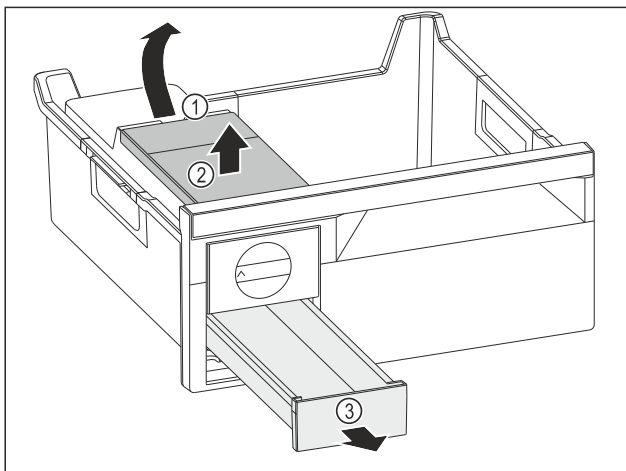

Fig. 76
- ▶ Removing the water tank: Lift the water tank by the recess Fig. 76 (1).
- ▶ Remove the water tank Fig. 76 (2) upwards.
- ▶ Remove the ice cube drawer Fig. 76 (3) to the front.